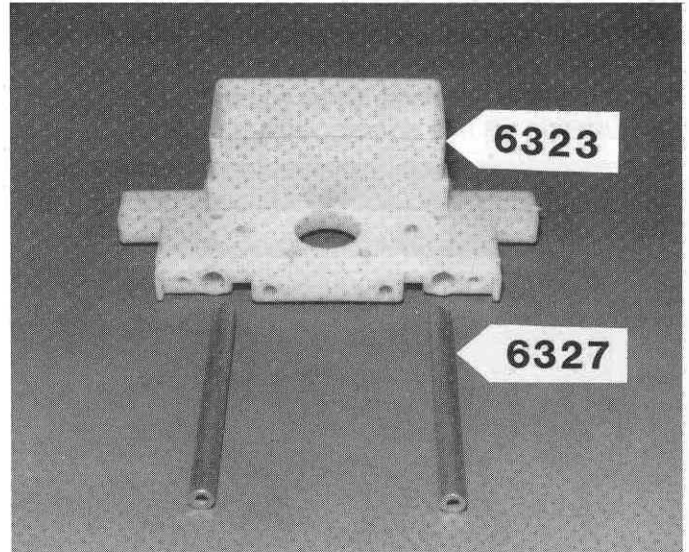

Fig. 99
□ **Fig. 99** From bag #6-4 take the #6323 rear bulkhead out, and the 2 #6327 wing tubes. The wing tubes are the short tubes. Take the tubes, round off the square cut corners on the ends with a file, and tap the wing tubes into the bulkhead.